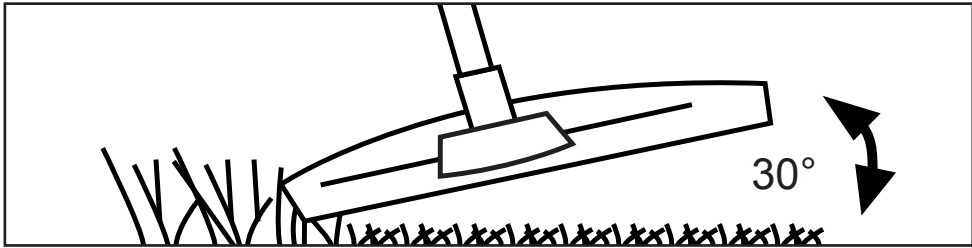

Fig. 17
- Hold the cutting attachment just above the ground at an angle of approximately 30° (Fig. 17).